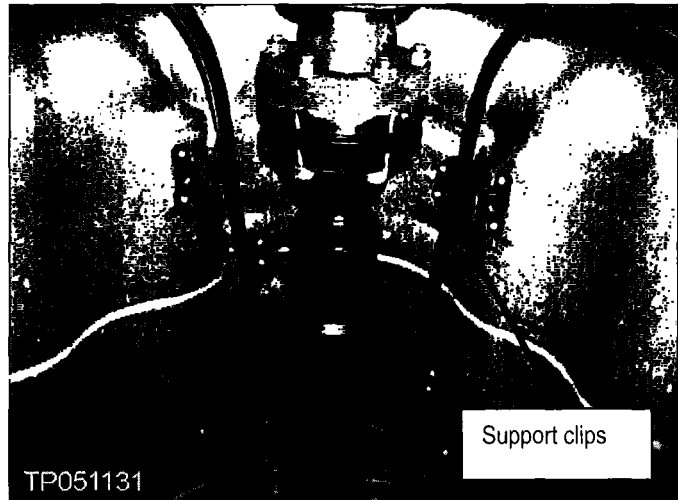

Figure 17
17. Remove the parking brake cables from the support clips (see Figure 17).